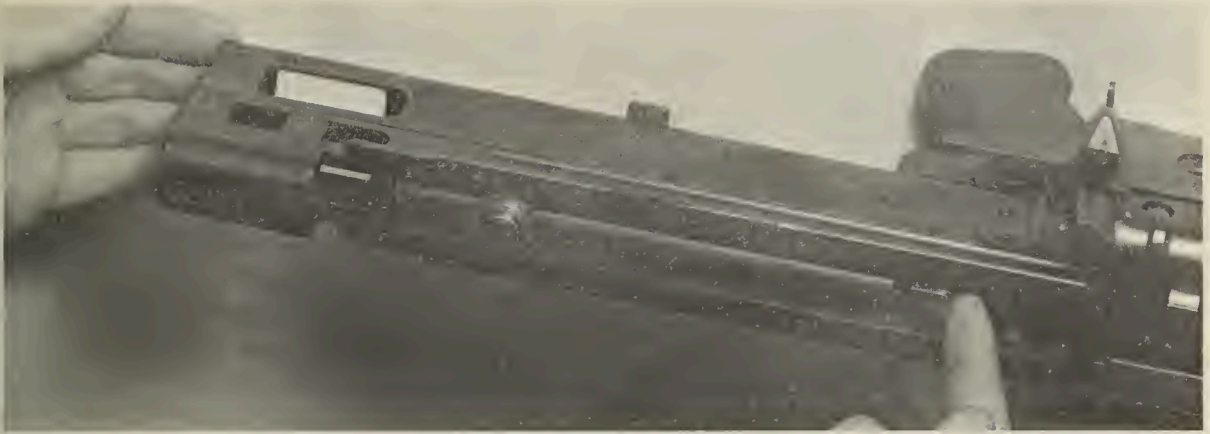

Figure 8. --Pushing the Operating Parts to the Rear.
(2) Pull the cocking lever handle to the rear and return it forward. Push rearward on the bolt face until about four inches of the bolt is exposed at the rear of the receiver. (See fig. 8.)